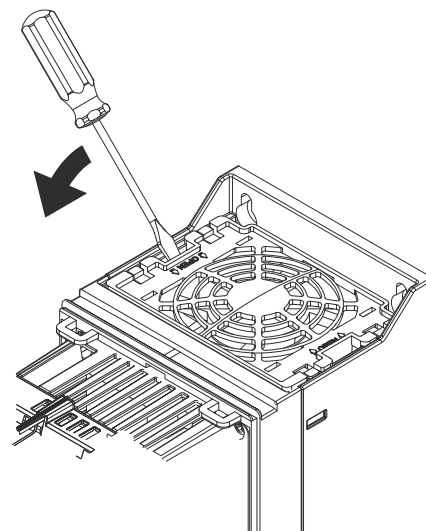

Fig. 41 — Remove Top Cover/Fan Assembly on ACH580 VFD
3. Remove the top fan cover (see Fig. 41).